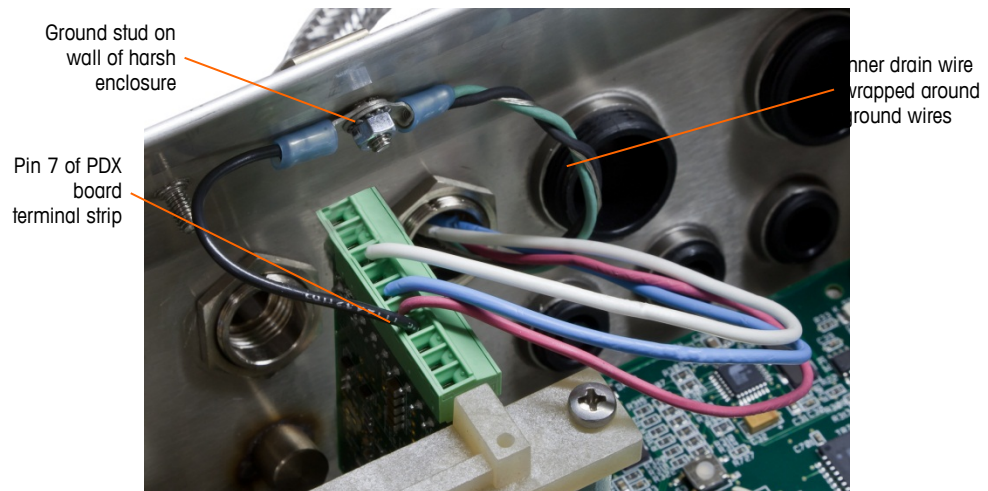

Figure A-64: POWERCELL PDX Home Run Power Ground Connection, Harsh
- b. Next, twist the home run cable's inner drain wire together with the black and green ground wires and make a connection to the same ground stud using another ring terminal as shown in Figure A-64.